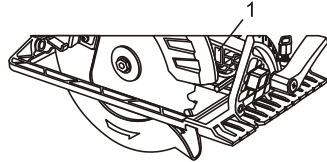

Fig. 9
The LED worklight (1) will turn ON automatically when the tool is plugged into the power supply (Fig. 9). It will turn OFF when the plug is removed from the power supply.